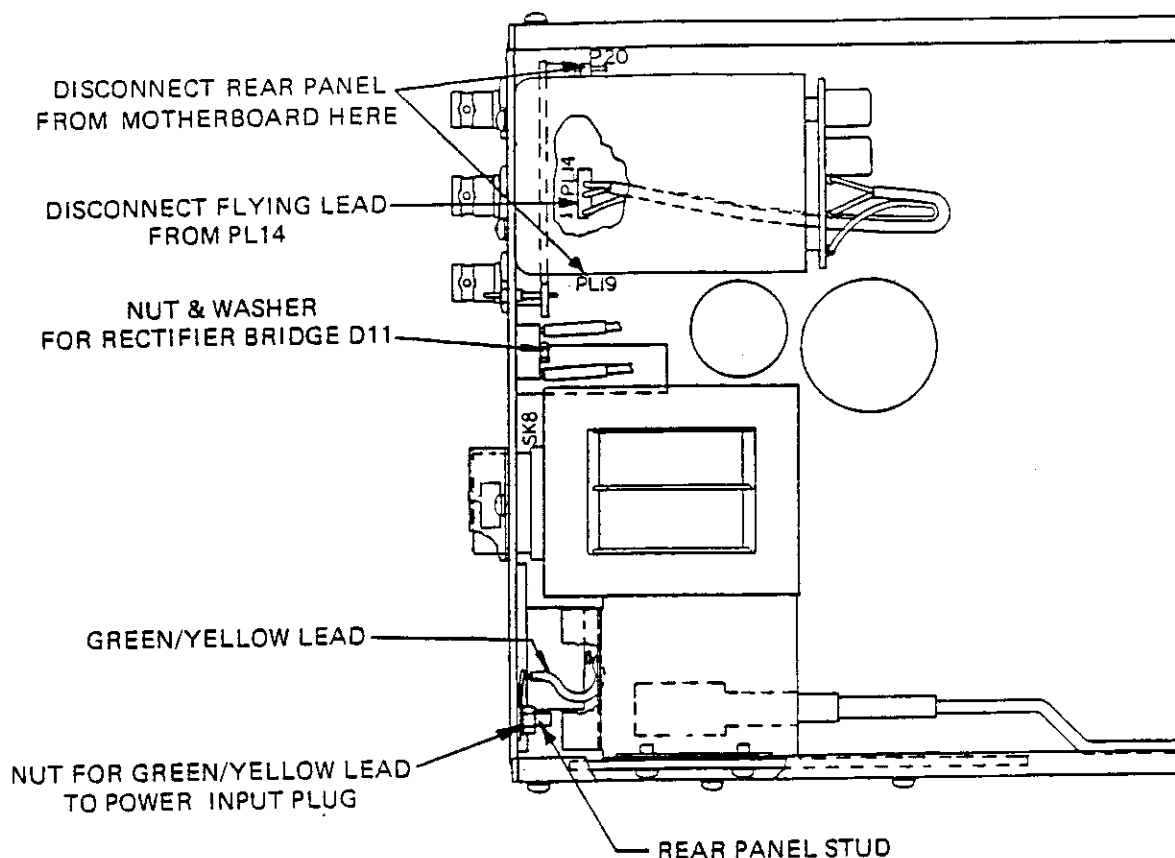

Figure 6.10 - Rear-Panel Removal Detail
- d. Ease the rear panel away from the instrument and disconnect from the motherboard at PL19 and PL20. See Figure 6.10
- e. Disconnect the frequency standard's flying lead from PL14 on the motherboard. See Figure 6.10
- f. Remove the nut and crinkle washer securing the rectifier bridge D11 to the rear panel. See Figure 6.10
- g. Disconnect the green/yellow lead connecting the rear-panel stud to the power input plug. See Figure 6.10